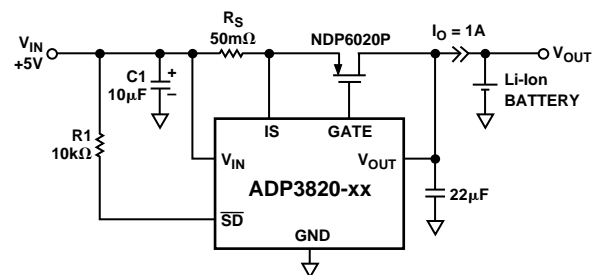
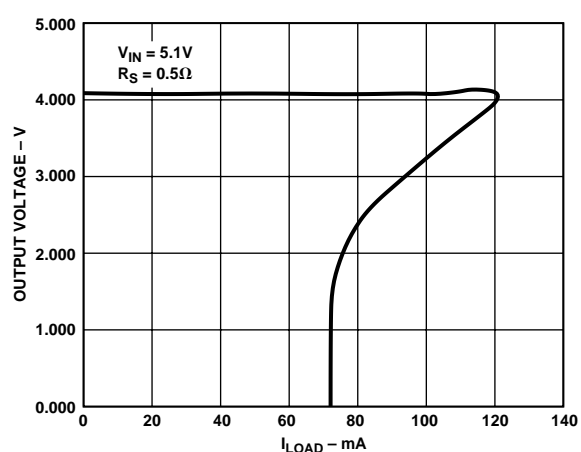

Figure 1. Li-Ion Charger Application Circuit
Figure 13. Current Limit Foldback*
*Reference Figure 1.
When fully charged, the circuit in Figure 1 works like a well known linear regulator, holding the output voltage within the specified accuracy as needed by single cell Li-Ion batteries. The output is sensed by the V_{OUT} pin. When charging a discharged battery, the circuit maintains a set charging current determined by the current sense resistor until the battery is fully charged, then reduces it to a trickle charge to keep the battery at the specified voltage. The voltage drop across the R_S current sense resistor is sensed by the IS input of the ADP3820. At minimum battery voltage or at shorted battery, the circuit reduces this current (foldback) to limit the dissipation of the FET (see Figure 13). Both the V_{IN} input and V_{OUT} sense pins of the IC need to be bypassed by a suitable bypass capacitor.
For the circuit shown in Figure 1, the required θ_{JA} thermal impedance can be calculated as follows: if the FET data sheet allows a max FET junction temperature of $T_{JMAX} = 150^\circ\text{C}$, then at 50°C ambient and at convection cooling, the maximum allowed ΔT junction temperature rise is thus, $T_{JMAX} - T_{AMAX} = 150^\circ\text{C} - 50^\circ\text{C} = 100^\circ\text{C}$.
The maximum current for a shorted or discharged battery is reduced from the set charge current by a multiplier factor shown in Figure 13 due to the foldback current limiting feature of the
The power FET is protected during short circuit conditions with a foldback type of current limiting that significantly reduces the current. See Figure 13 for foldback current limit information.